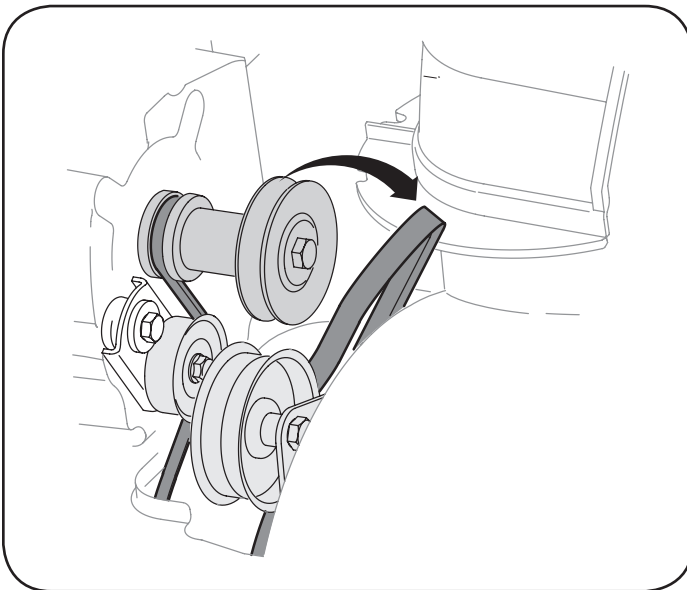

Figure 29
4. Roll the auger belt off the engine pulley. See Figure 29.